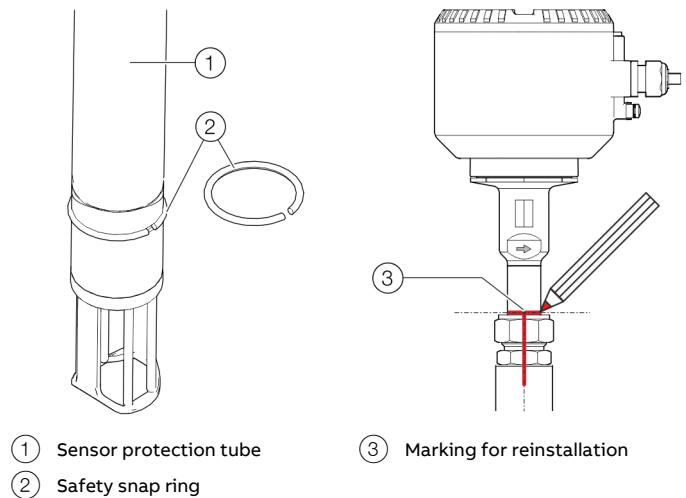
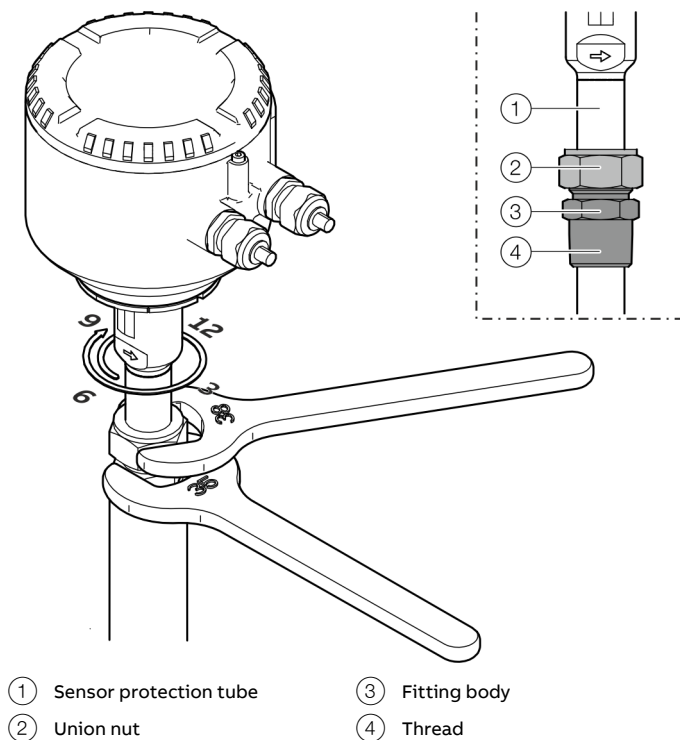

Figure 19: Snap ring and marking
Figure 20: Tighten sensor
2. Insert the safety snap ring using mounting pliers (see Figure 19, Pos. ②).
5. Using a suited marker pen, mark the orientation and height of the sensor on the sensor protection tube, compression fitting and the welding adapter (see Figure 19, pos. ③). The marking on the union nut is also used as a starting position (6 o'clock position, see Figure 20) for the tightening of the compression fitting
3. Using a suited marker pen, mark the orientation and height of the sensor on the sensor protection tube, compression fitting and the welding adapter (see Figure 19, pos. ③).
1. Make sure that the safety snap ring is inserted in the provided snap ring groove (see Figure 19, pos. ②).